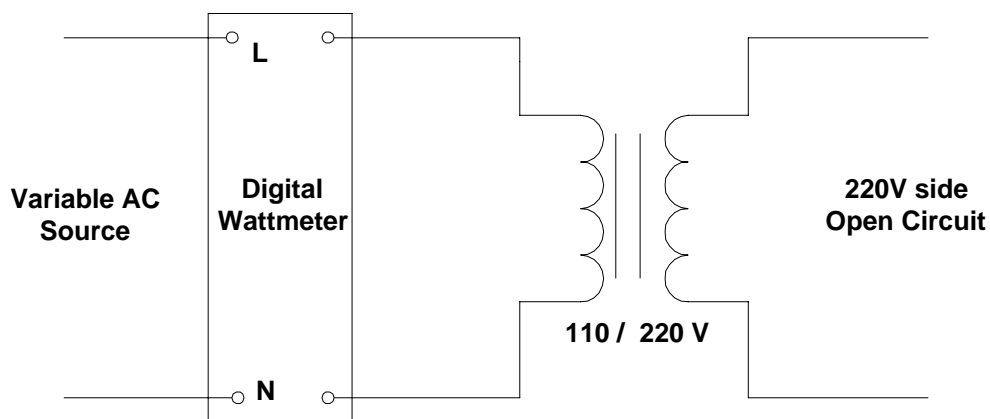

Fig. 2 : The Open Circuit Test connection
2. Connect the circuit as shown in Fig2. with the high voltage side open circuited